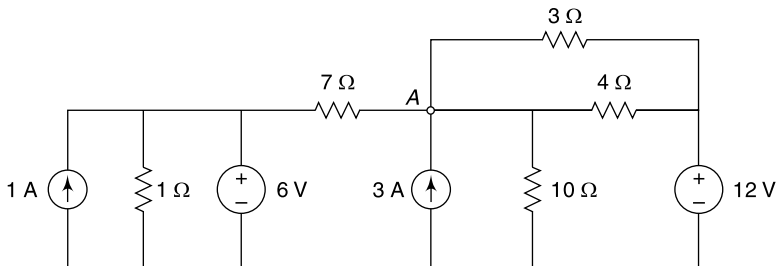

Fig. 4.123 Circuit of Ex. 4.92
4.92 In the circuit shown in Fig. 4.123 find voltage at node A.